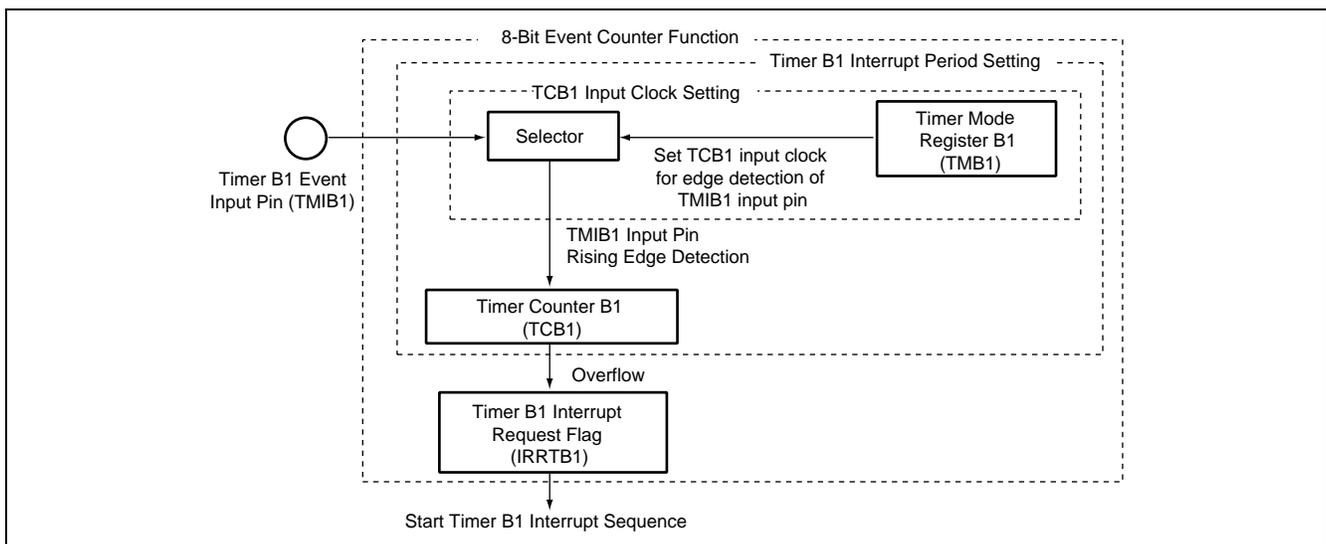

Figure 2.1 Timer B1 Event Counter Function Block Diagram
- A. Figure 2.1 shows the block diagram of the Timer B1 event counter function which is described as follows: